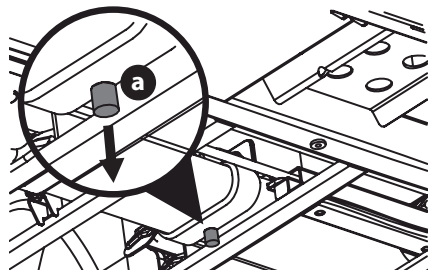

Figure 41
2. Remove the drain and allow the water to run out (a). Then replace the drain and the middle skid plate (Figure 41).